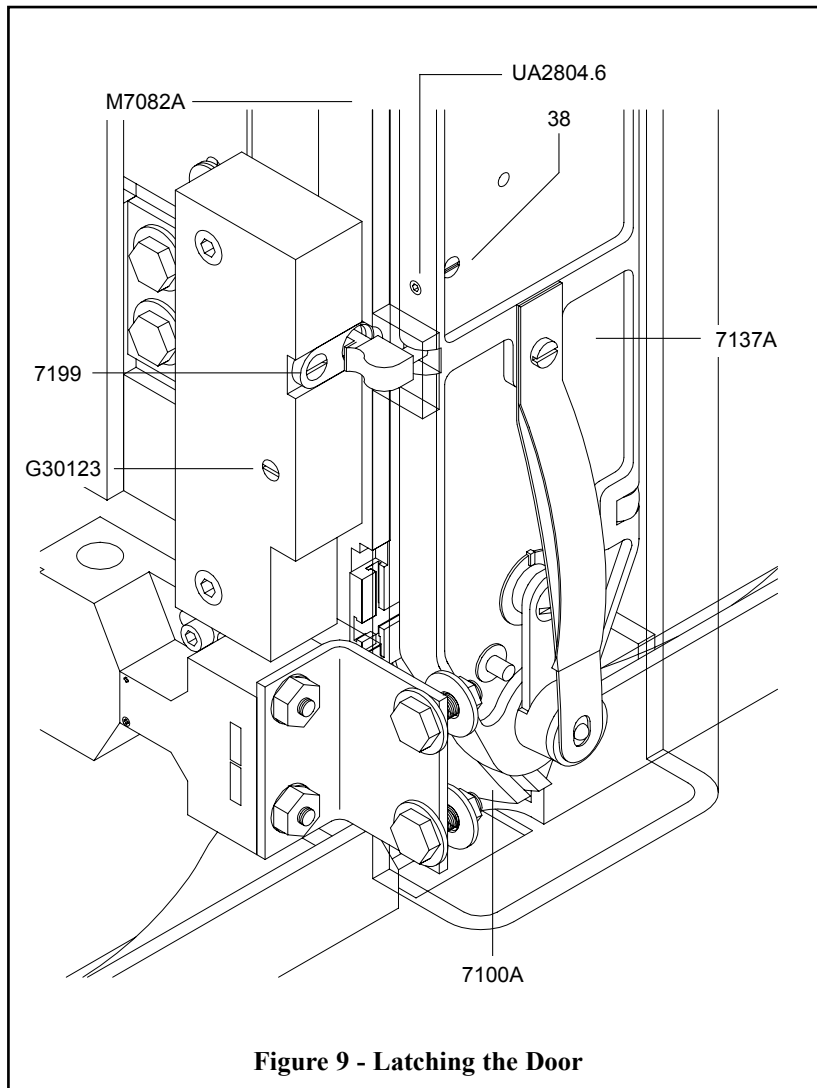

Figure 9 - Latching the Door
If the Door Assembly (7137A) is not properly balanced it rattles. To correct this, loosen the Set Screw (UA.2804.6) on the side of the Door and adjust the depth setting of the Screw (38) in the Door Assembly. Refer to **Figure 9** for reference to accurately balance the Door against the Face Plate Assemblies (M7083A and M7082A). When the Door no